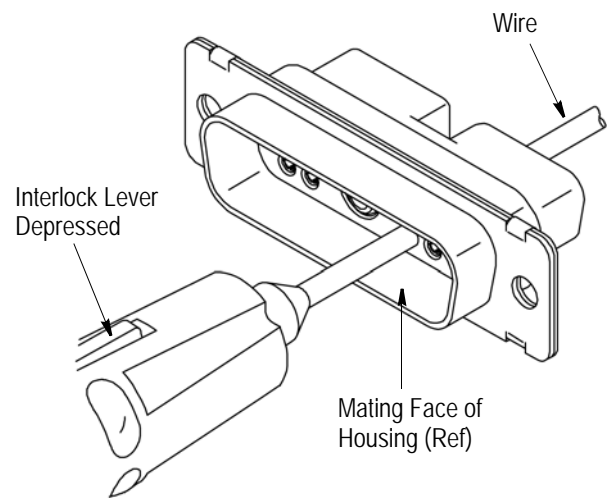

Figure 3
3. EXTRACTION PROCEDURE (Figure 3)